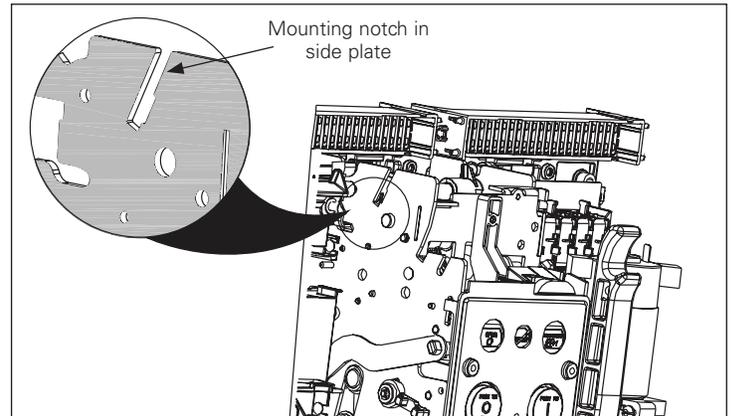

Figure 14. Step 5.
**Step 5:** Note the small locking tab (see Figure 14) that locks the pop-out indicator into its mounted position in the mounting notch in the side plate.